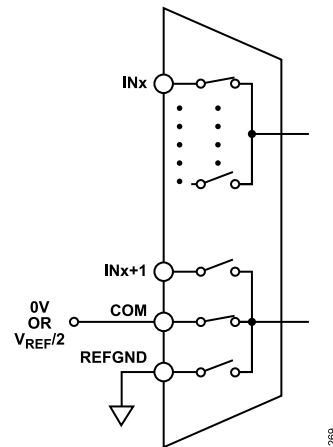

Figure 70. INx Paired with COM
- ▶ Figure 70, IN0 to IN7 paired with COM